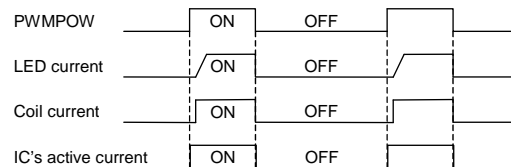

Fig.31 PWMPOW sequence
- 2) Power control PWM control is controlled by providing PWM signal to PWMPOW, as it is shown Fig.31. The current setting set up with PWMDRV logic is chosen as the H section and the current is off as the L section. Therefore, the average LED current is increasing in proportion to duty cycle of PWMPOW signal. This method is, because IC can be power-off at off-time, the consumption current can be suppress, and the high efficiency can be available, so it makes it possible to brightness control until $50\mu\text{s}$ (MIN1% at 200Hz). And, don't use for the brightness control, because effect of power ON/OFF time changeover is big under $50\mu\text{s}$ ON time and under $50\mu\text{s}$ OFF time. Typical PWM frequency is 100Hz~1kHz.